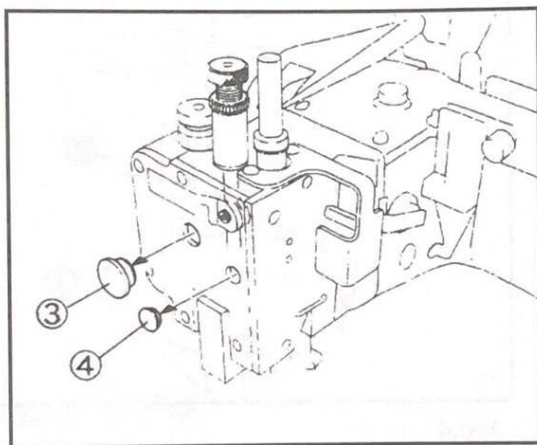

Fig.5
- (1) 移除油塞③④才可以檢查間隙。(Fig.5)
- (1) Remove the seal plugs ③ ④ to check the clearance.(Fig. 5)